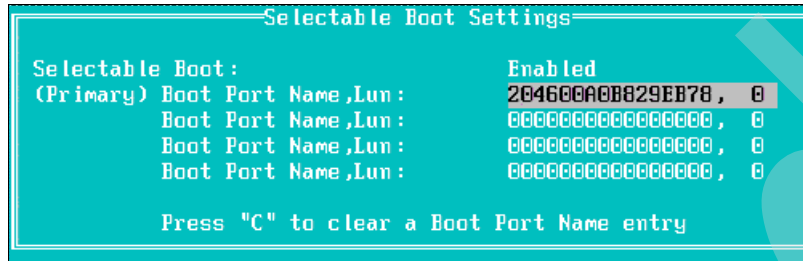

Figure 5-14 Map boot device
- e. Under the Selectable Boot Settings option, set the boot device to the controller's World Wide Port Name, as shown in Figure 5-14.